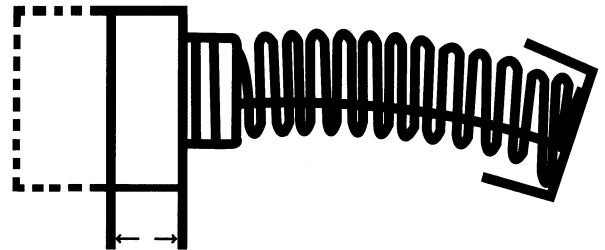

Figure 10
1. Replace carbon brushes when they wear down to about 1/4" (6 mm) or sparking will occur. Both brushes should be changed at the same time. (Figure 10)